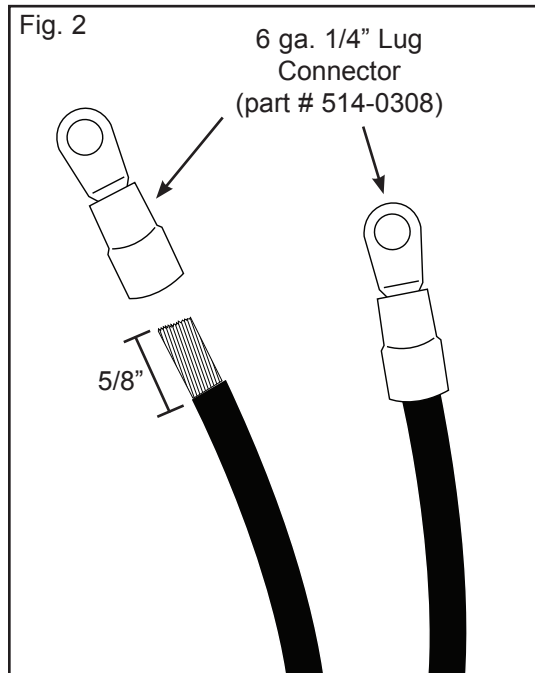

Fig. 2
- Attach connectors (part # 514-0308) and crimp (Fig. 2).